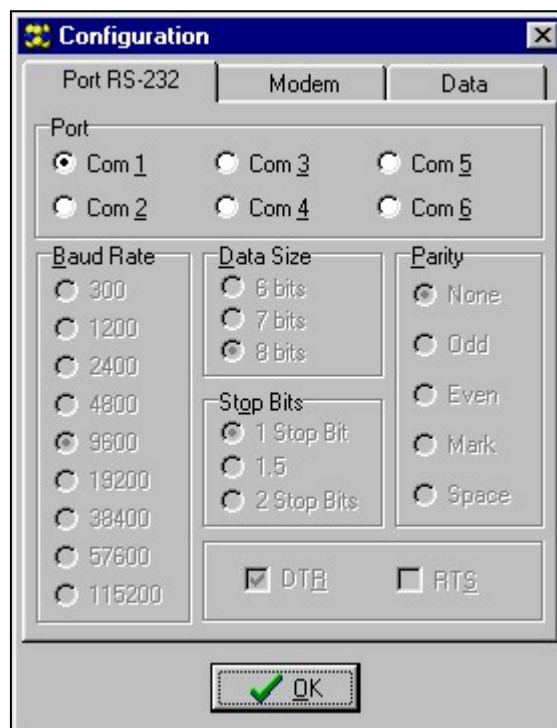

Figure 11.
2. Enter the option of module communication settings by clicking the  icon (or through the **Communication→Configuration** menu) and select the port through which the computer connects with the module RS-232 port (see figure 11).